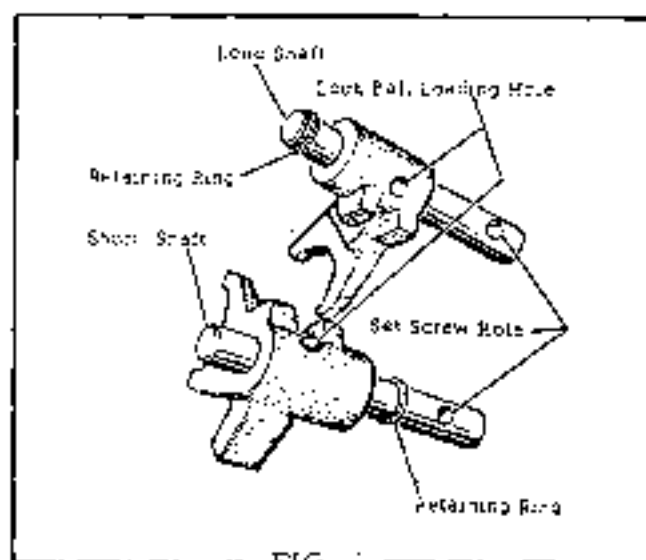

FIG. 1
1. Identify the long shaft, (it has a retaining ring on the end of the shaft farthest from the setscrew hole) and insert the setscrew hole end into the hub of a shift fork. See Fig. 1. Before pushing the shaft through the hub of fork, insert the shift lock spring and ball through the loading hole and depress with a $3/8"$ rod so that the shaft may slide through.
Identify the short shaft, (it has a retaining ring located near the setscrew hole) and insert the end without the retaining ring into the hub of the shifter fork. Before pushing the shaft through the hub of the fork, insert the shift lock spring and ball through the loading hole and depress with a $3/8"$ rod so that the shaft may slide through. See Fig. 1.